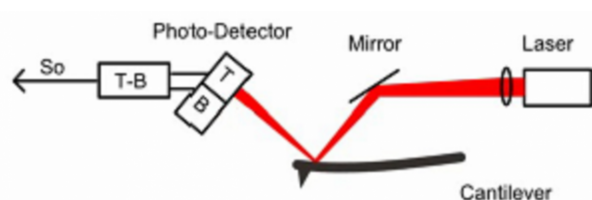

Figure 8: Laser-cantilever-detector setup
A light lever is created by reflecting the light off of the cantilever and onto a **position-sensitive photodetector** (see Figure 8). The signal from the top half (T) minus the signal from the bottom half (B), i.e. T-B, gives the relative vertical deflection of the cantilever (**animation**).